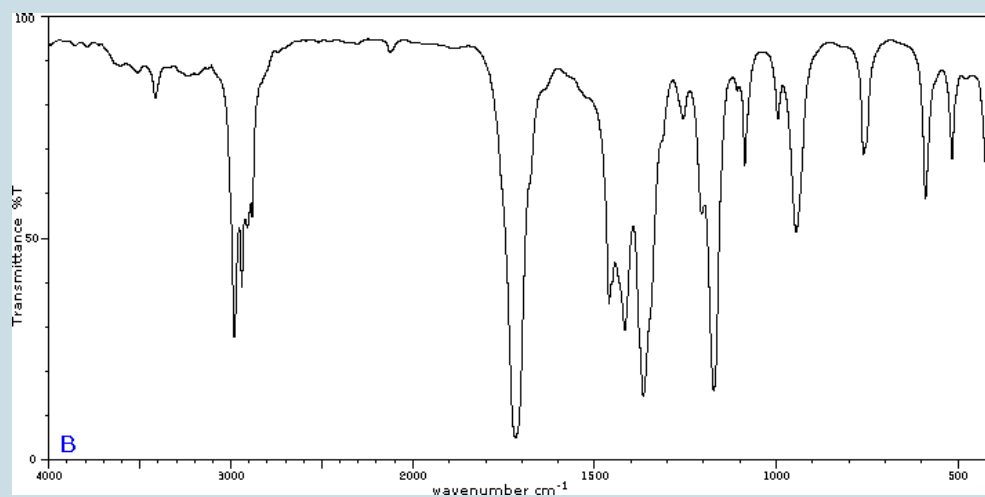
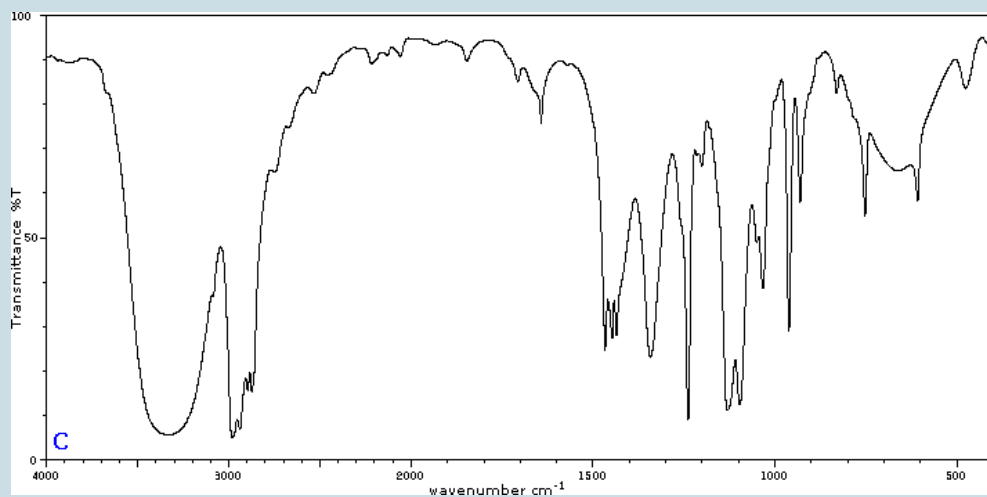
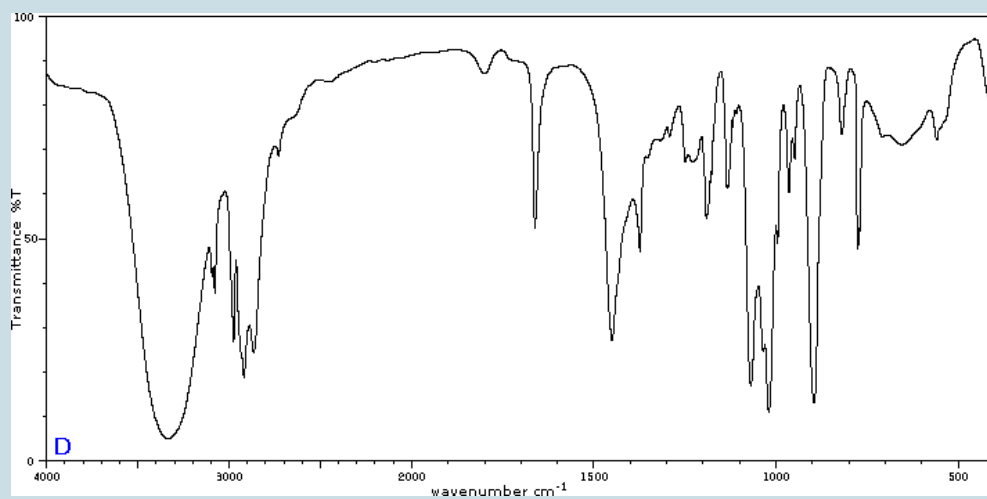
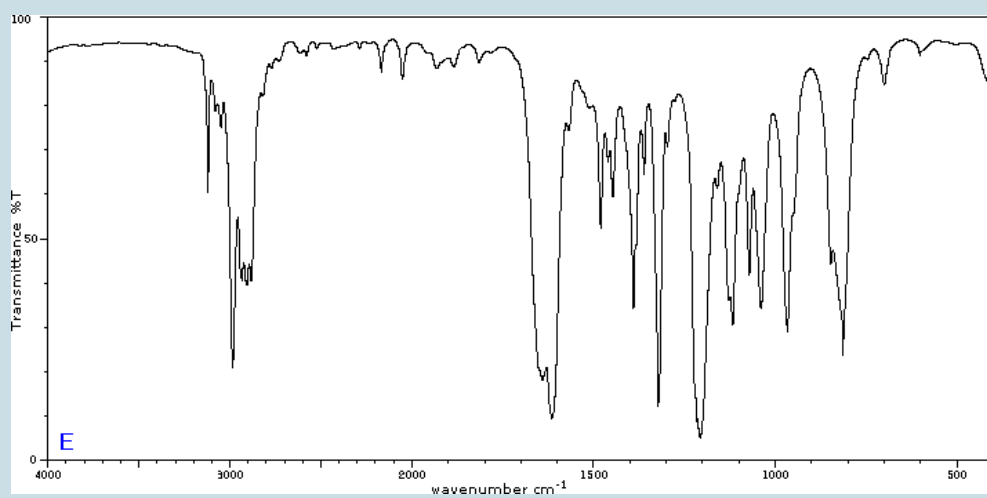

Figure 29.6v. Infrared spectrum of unknown compound B. (Credit: Map: *Organic Chemistry (Wade)*, CC BY-NC-SA 4.0)
Figure 29.6w. Infrared spectrum of unknown compound C. (Credit: *Map: Organic Chemistry (Wade)*, CC BY-NC-SA 4.0)
Figure 29.6x. Infrared spectrum of unknown compound D. (Credit: *Map: Organic Chemistry (Wade)*, CC BY-NC-SA 4.0)
Figure 29.6y. Infrared spectrum of unknown compound E. (Credit: *Map: Organic Chemistry (Wade)*, CC BY-NC-SA 4.0)
Five infrared spectra are provided for isomers of $\text{C}_4\text{H}_8\text{O}$. Their structural formulas are also provided in Figure 29.6t. Associate each spectrum (Figure 29.6v through z) with one of the isomers.
1. Figure 29.6v: 2-methylpropanal, Figure 29.6w: 2-butanone, Figure 29.6x: cyclobutanol, Figure 29.6y: 2-methyl-2-propen-1-ol, Figure 29.6z: ethyl vinyl ether
29.7 MASS SPECTROMETRY (MS)